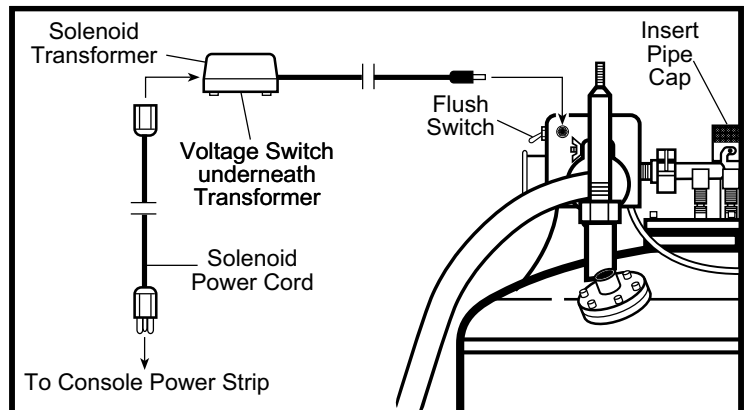

Figure 3-7 Connecting Solenoid Valve Assembly to Power
10. Plug the Solenoid Transformer into Solenoid Valve Assembly. Under the transformer is a voltage switch. Set it to the voltage appropriate to your supply: 115 V or 230 V. (Figure 3-7).
11. Plug the solenoid power cord into the Solenoid Transformer. Plug the other end into the console power strip or other power supply. (Figure 3-7).